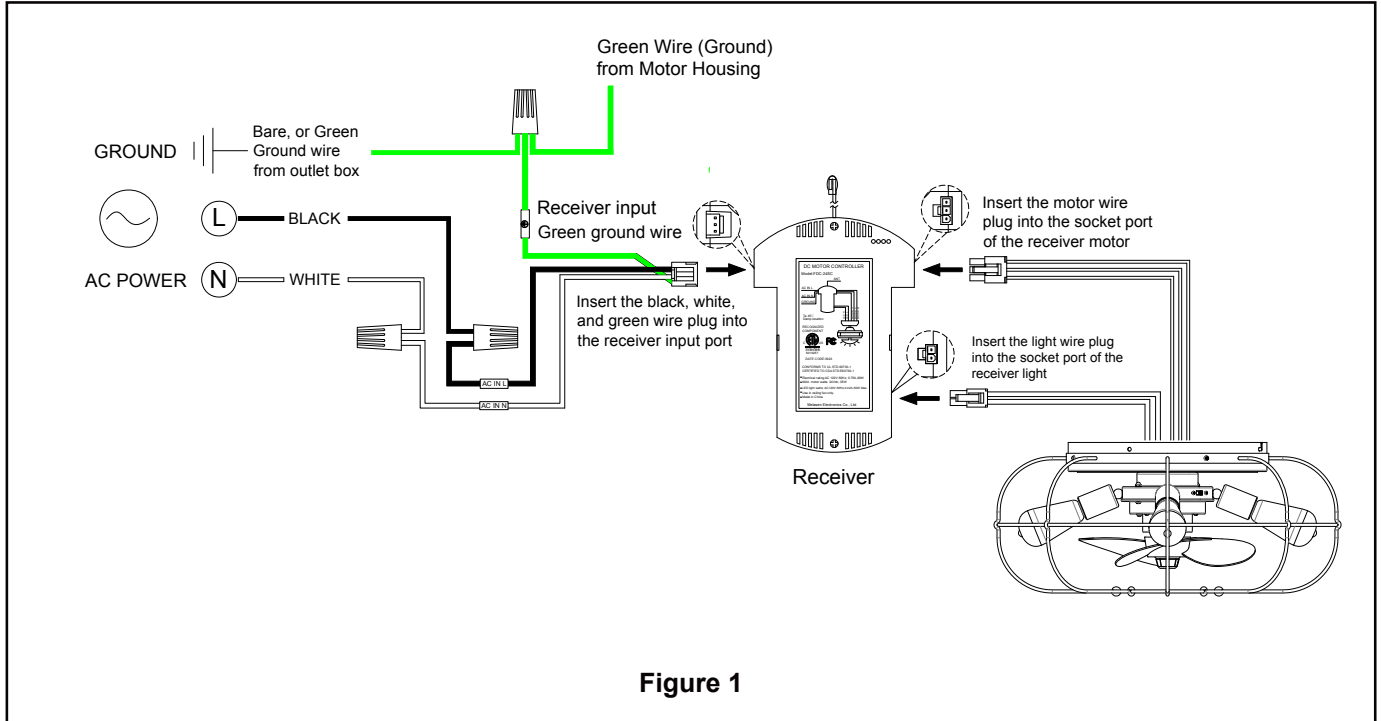

Figure 1
1. Connect green wires from Receiver input Green ground wire and motor housing to bare (ground) wire using wire connector. Connect black wire from Receiver input unit marked "AC IN L" to black supply wire using wire connector. Connect white wire from Receiver input unit marked "AC IN N" to white supply wire using wire connector. Connect the motor plug wire to the receiver output corresponding motor female socket. Connect the light plug wire to the receiver output corresponding light female socket. (Figure 1)